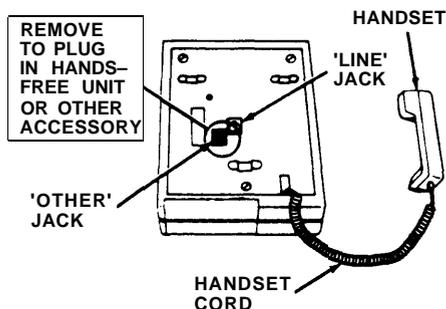

Figure 2
2. Turn voice terminal upside down and plug one end of handset cord into jack with the drawing of the handset beside it (see Figure 2).
3. Plug the loose end of the handset cord into the handset (see Figure 2).